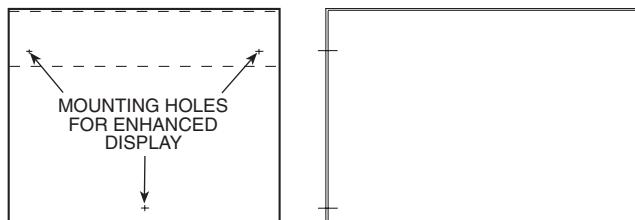

Fig. 3 — Enhanced Display Mounting Bracket
- For 30HX applications, using the three no. 10 x 3/8-in. sheet metal screws provided, attach the display mounting bracket (Fig. 3) to the display control box.